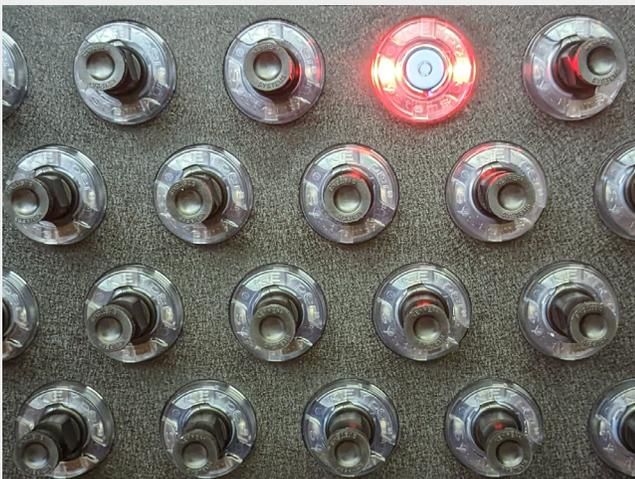

Fig. 36 – Return the Sturdifob
4. Insert the **fob** into any lighted empty socket, as shown in Fig. 36 and Fig. 37.